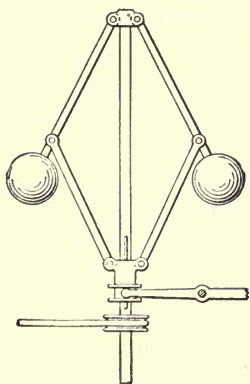

FIG. 170.—Governor.
**369. Purpose of a Governor.**—The governor (Fig. 170) of a steam engine is a device which controls the supply of steam by letting into the cylinder just the right quantity. In the pipe which carries the steam from the boiler to the cylinder is a valve called the throttle valve, by which the communication between boiler and engine may be opened or closed. A rod connects this valve to the governor, which is made to turn round by a belt from the crank shaft. The faster the crank shaft turns the faster the governor goes round. At the lower end of the governor are two heavy